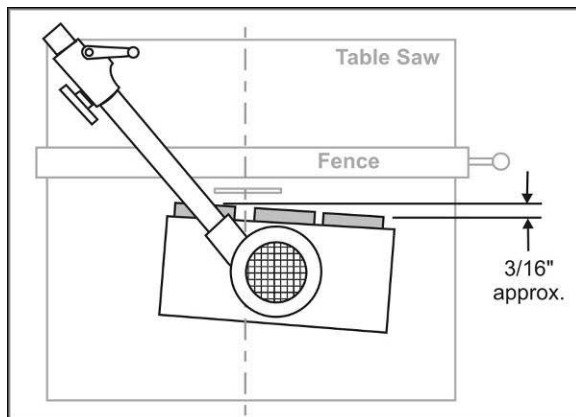

Figure 19
1. Position the 3-roller stock feeder so that the axis of the saw blade lines up between the center roller and outfeed roller. (See Figure 19.) Position the 4-roller stock feeder so that the axis of the saw blade lines up between the center wheels. These positions will allow the Stock Feeder to grip the offcut of the workpiece as it leaves the blade.
2. Rotate the Stock Feeder so that the direction of feed is angled slightly toward the fence by approximately 3/16" (5mm); that is, the outfeed roller should be slightly closer to the fence than the infeed roller. See Figure 19.